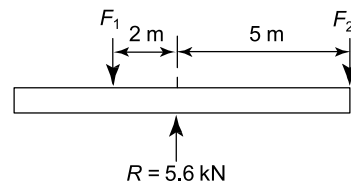

Figure RT3.1
8. Determine by resolution of forces the resultant of the following three coplanar forces acting at a point: 120 N acting at 40° to the horizontal; 250 N acting at 145° to the horizontal; 300 N acting at 260° to the horizontal. (8)
9. A moment of 18 N m is required to operate a lifting jack. Determine the effective length of the handle of the jack (in millimetres) if the force applied to it is (a) 90 N (b) 0.36 kN . (6)
10. For the centrally supported uniform beam shown in Figure RT3.1, determine the values of forces F_1 and F_2 when the beam is in equilibrium. (7)